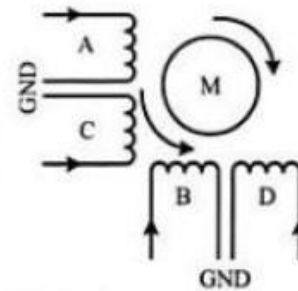

Fig. 2.18 2-Phase unipolar stepper motor
1. Unipolar A unipolar stepper motor contains two windings per phase. The direction of rotation (clockwise or anticlockwise) of a stepper motor is controlled by changing the direction of current flow. Current in one direction flows through one coil and in the opposite direction flows through the other coil. It is easy to shift the direction of rotation by just switching the terminals to which the coils are connected. Figure 2.18 illustrates the working of a two-phase unipolar stepper motor.